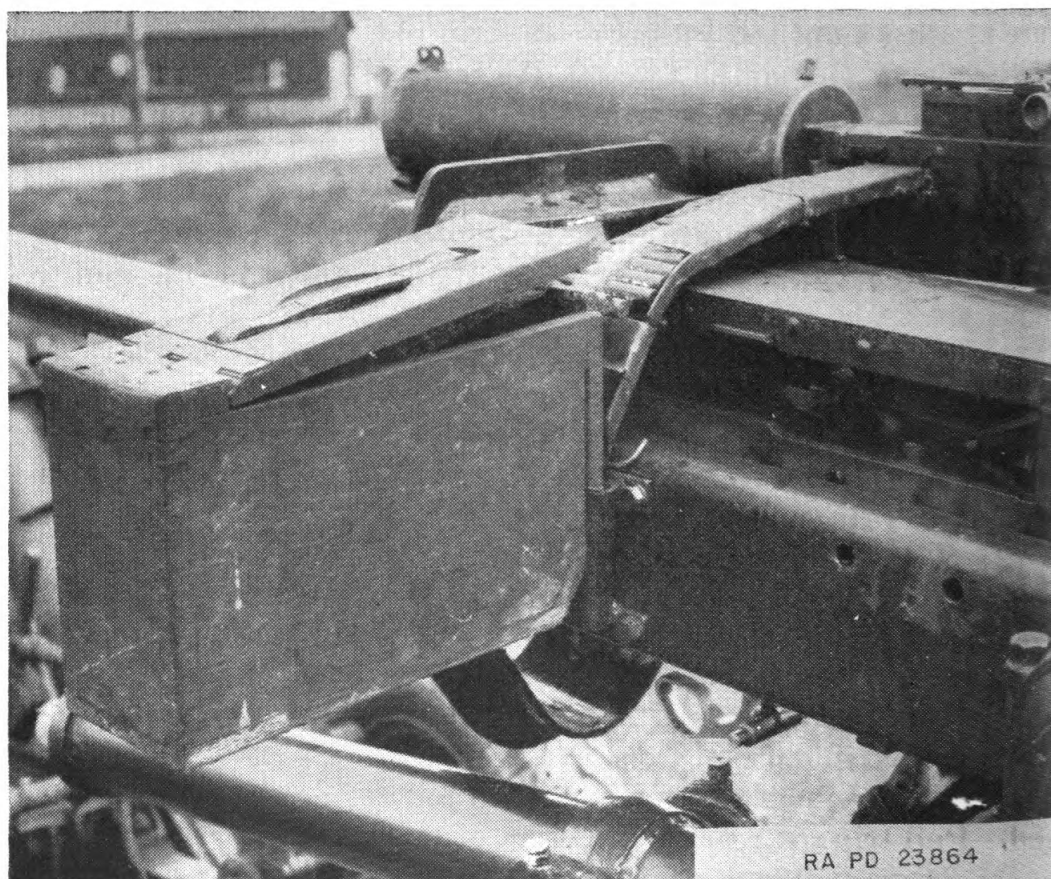

FIGURE 135.—37-mm subcaliber ammunition box, feeding equipment, and tray, carriages M3 and M3A1.
*d. Disassembly of gun mount.*—(1) Remove rear support by removing rear support adjusting nuts and washers.
(2) Remove front support yoke by removing lower adjusting nut and lifting yoke out of support bracket.
(3) Remove support bracket by removing support bracket screws and washers.
(4) Remove ammunition support bracket for holding ammunition box by removing ammunition box support bracket screws.
**154. Ammunition box and feeding equipment for subcaliber mounts M8 and T10.**—*a.* The ammunition box used is the caliber .30 wooden ammunition box M1917 and has a projecting bracket which fits into the ammunition box support (fig. 135).
*b.* An ammunition tray will be supplied, made of sheet metal and brazed together. This tray is necessary to carry the cartridges over the top of 37-mm gun mechanism. The design and arrangement can be seen from figure 135.
(1) The ammunition tray is used to aline the ammunition with the receiver of the gun or the ammunition will jam. The tray must be deep enough not to cause undue drag or friction.
(2) Since the attachment of the caliber .30 ammunition tray interferes with the firing of the 37-mm gun, the caliber .30 gun cannot be fired at the same time as the 37-mm gun.
(3) In order that the ammunition may be fed correctly, the cover of the ammunition box should be as nearly closed as possible so as to push downward on the cartridges as they emerge from the box.